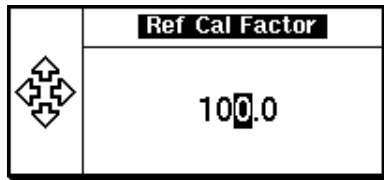

Figure 7-5 Reference Calibration Factor Pop-Up Window
- 4 If required, change this setting by pressing the channel **Ref CF**. The reference calibration factor pop-up window is displayed as shown in Figure 7-5.